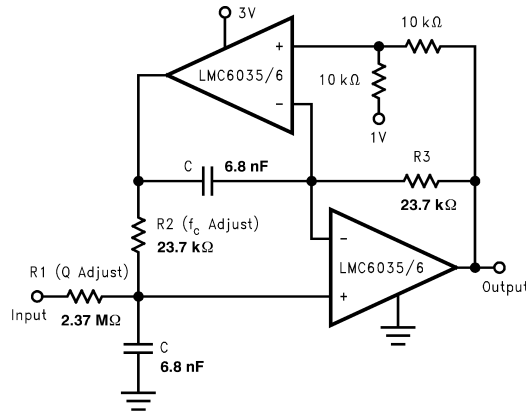

Figure 49. 2 Pole, 1kHz Active, Bandpass Filter
The dual amplifier bandpass (DABP) filter features the ability to independently adjust  $f_c$  and  $Q$ . In most other bandpass topologies, the  $f_c$  and  $Q$  adjustments interact with each other. The DABP filter also offers both low sensitivity to component values and high  $Q$ s. The following application of Figure 49, provides a 1kHz center frequency and a  $Q$  of 100.
1. First choose a center frequency ( $f_c$ ). Figure 49 represents component values that were obtained from the following computation for a center frequency of 1kHz.  $R2 = R3 = 1/(2 \pi f_c C)$  Given:  $f_c = 1\text{kHz}$  and  $C$  (chosen) = **6.8nF**  $R2 = R3 = 1/(2\pi \times 1\text{kHz} \times 6.8\text{nF}) = 23.4\text{k}\Omega$